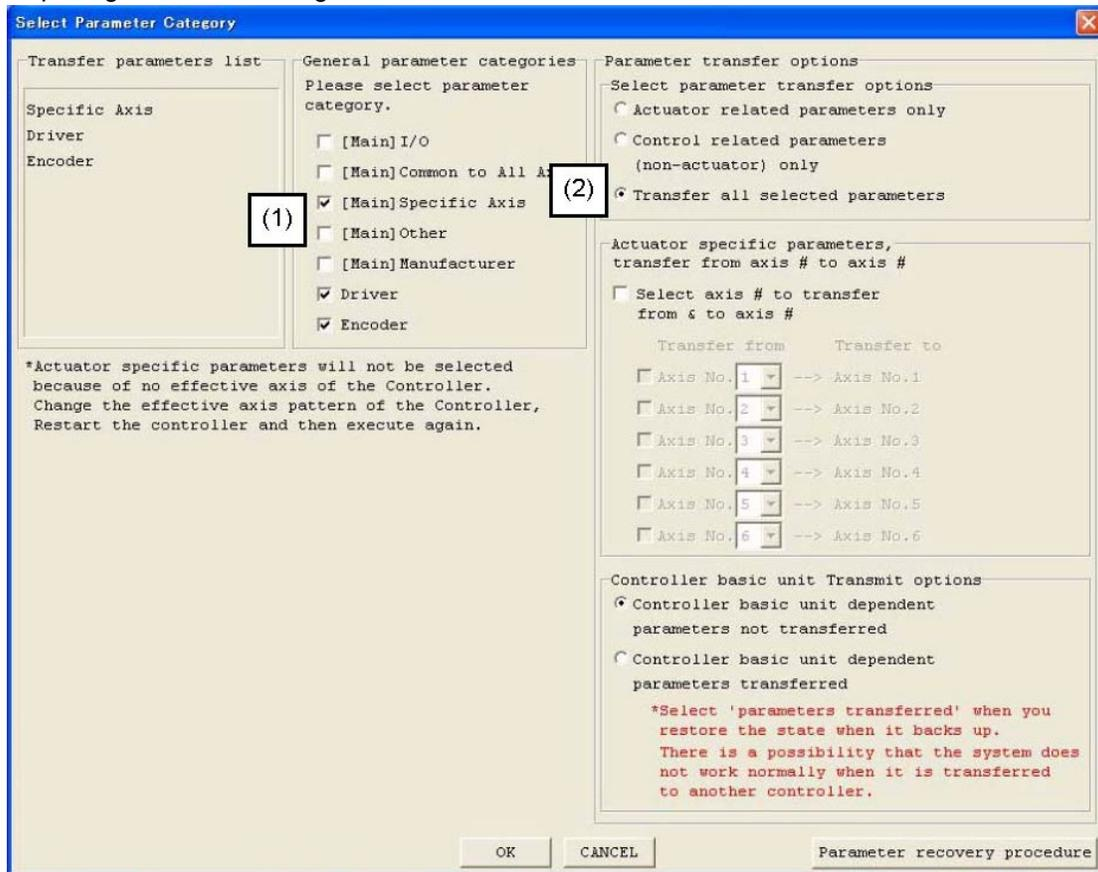

Fig. 18.8 Transfer of Actuator Specific Parameters
As in step 2, select File (F) → Open (O) from the menu and display the transfer parameter type selection screen from the recovery parameter file. Next, on the transfer parameter type selection screen (Fig. 18.8), set as follows.